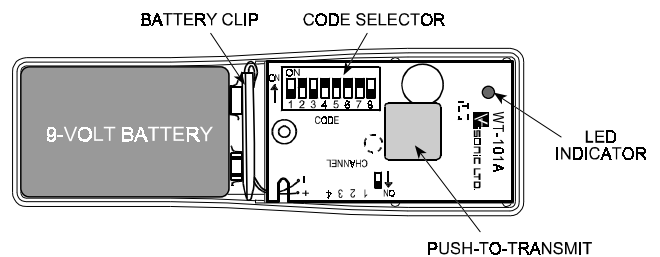

Figure 1. WT-101, Cover Removed
**Model WT-101** (see Fig. 1): This model activates the receiver's "channel 1" output relay.
- Install the battery clip onto the 9-Volt battery. Position the battery as shown in Figures 1, 2 and 3.